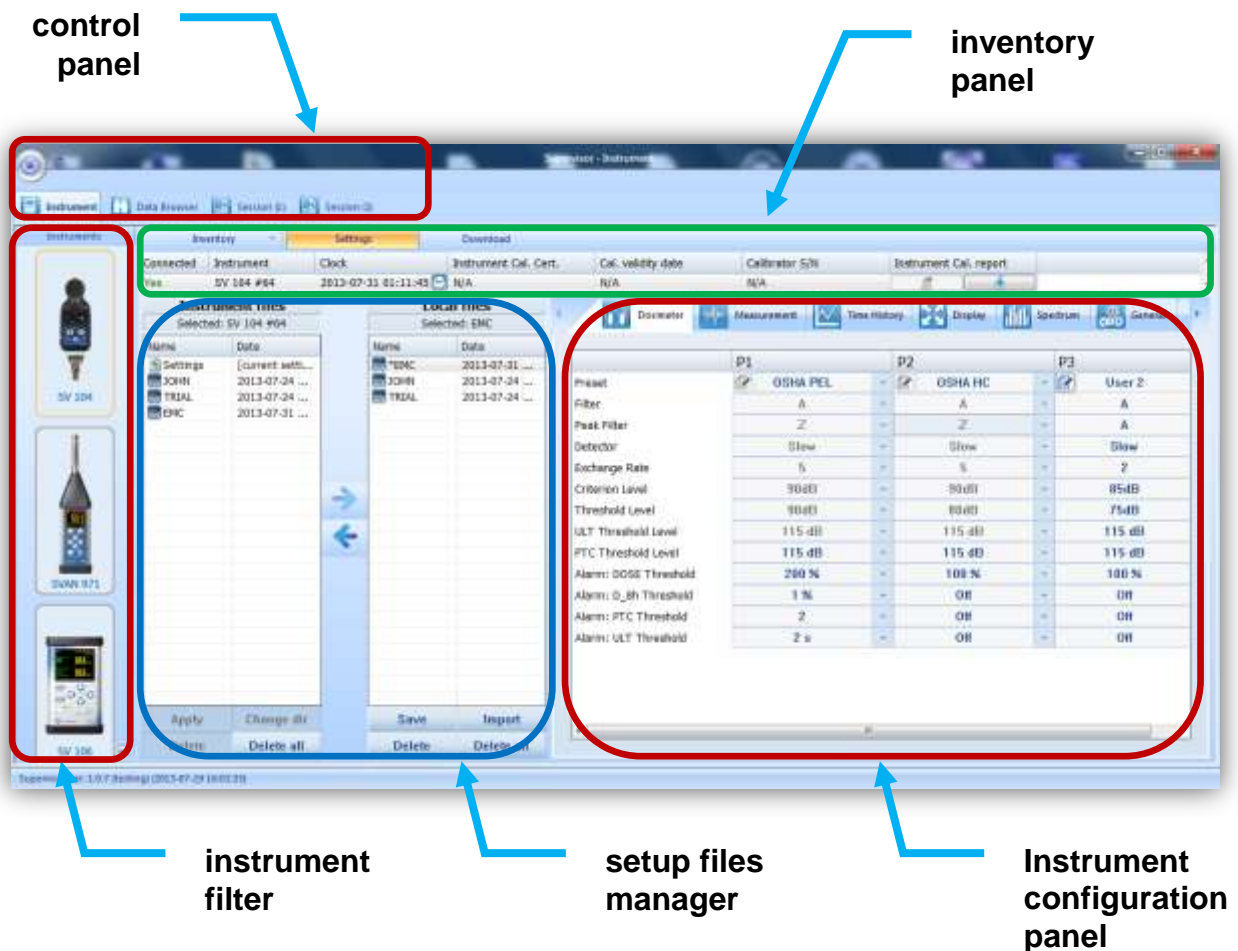

Figure 5-2 Supervisor main window
Click the **SV 104** big instrument icon in the left “Instrument filter” Panel (see Figure 5-2) to get access to the devices.
3. Select the just copied **"Settings"** with a click: this will display quite a few configuration tabs on the right side so called Instrument configuration panel of the main **Supervisor** window (Figure 5-2)